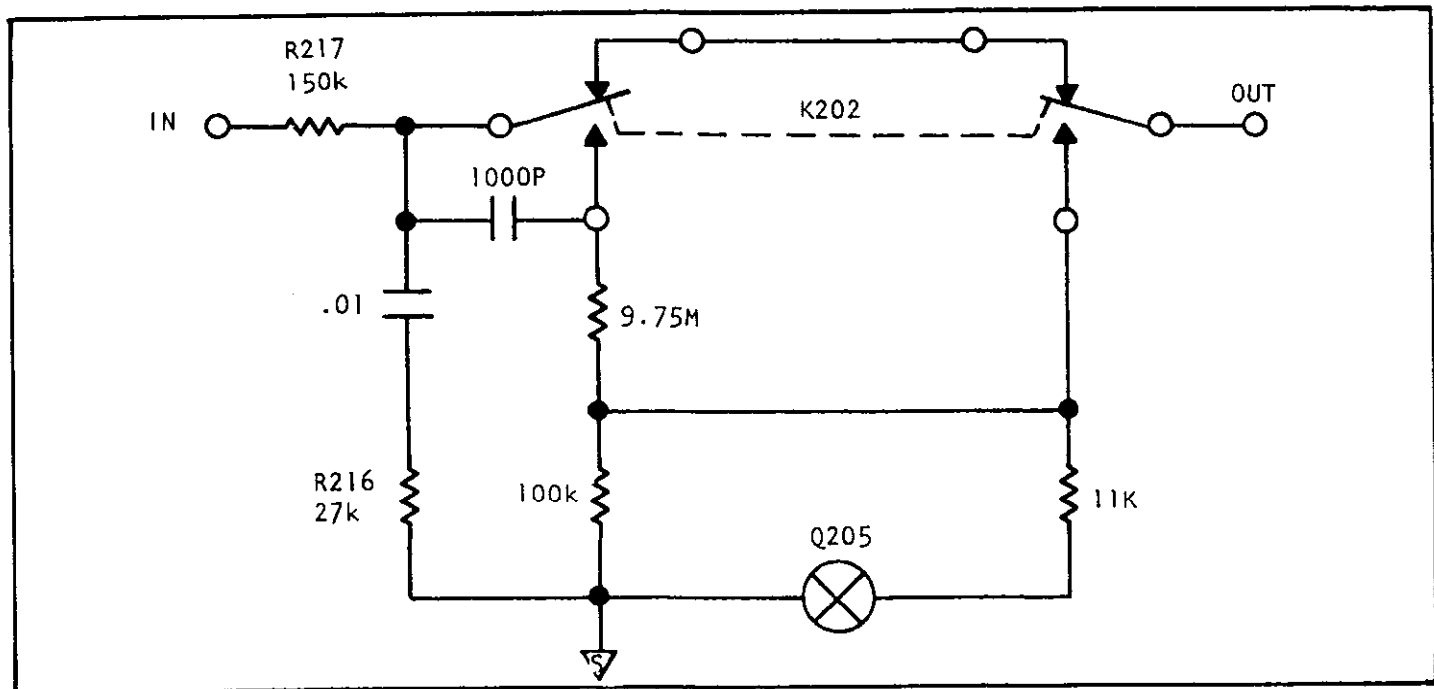

FIGURE 5-3. Simplified Schematic of DC Attenuator.
1) The dc attenuator is shown on the simplified schematic (Figure 5-3). On the 300mV and 3V ranges, K202 is de-energized as shown and no attenuation occurs. Above ± 3 volts, K202 will energize. This means that the output on the 30V and 300V ranges will be 1/100 of the input as derived from the following equation.